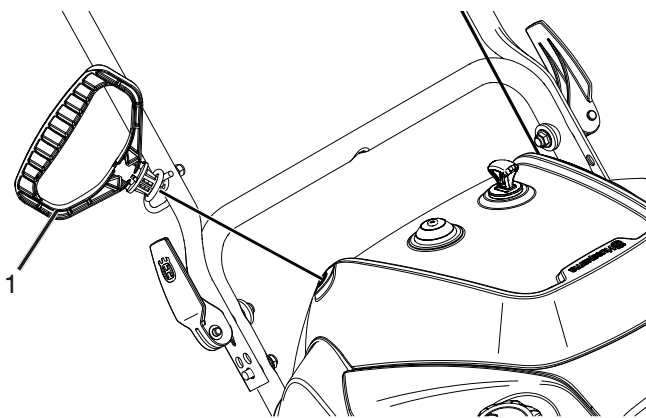
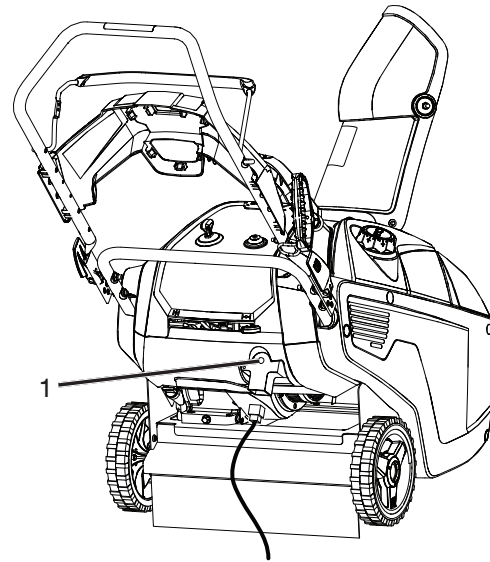

Figure 11
Figure 12
4. Pull the recoil starter (Figure 11) or if your snow thrower is equipped with an electric starter, connect an extension cord to the snow thrower and plug the other end into a three-hole grounded 110 volt A.C. receptacle and push the electric-start button (Figure 12).
6. Unplug the extension cord from the power source and the snowthrower (Figure 12).